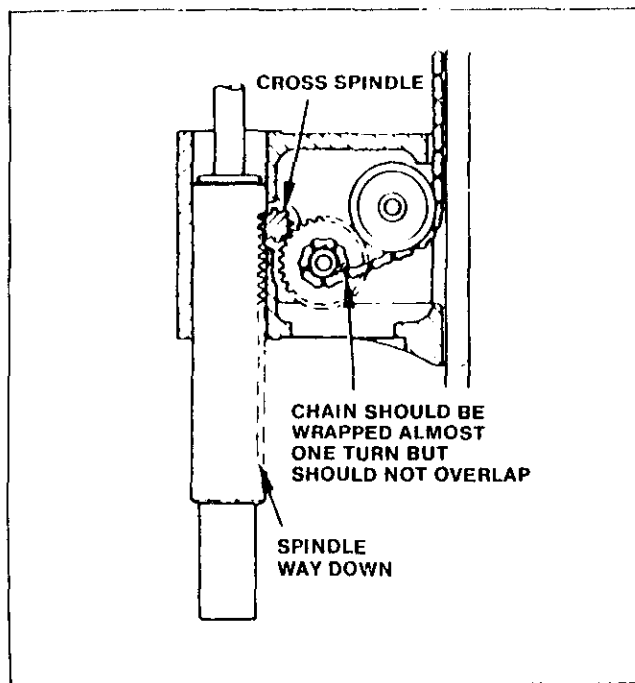

Figure M-3. Chain Position
### CROSS SPINDLE AND SPINDLE REMOVAL (Figures M-3 and M-4)
6. Remove the sheet steel cover from the underside of the sliding head and note the position of the chain on the chain gear so that this can be placed in the same position at reassembly (see Figure M-3).
4. Try moving the spindle by hand. There should be little or no movement down since the spindle should be at its lower limit of travel. Movement up should be difficult because with the counterweight blocked, it is necessary to lift the weight of the spindle and sleeve. Remove the blocking and try the spindle through its full travel. The chain should be wrapped on the hub of the chain gear almost a full turn (but not overlapping) (see Figure M-3) when the spindle is down and tangent to the hub when the spindle is up.